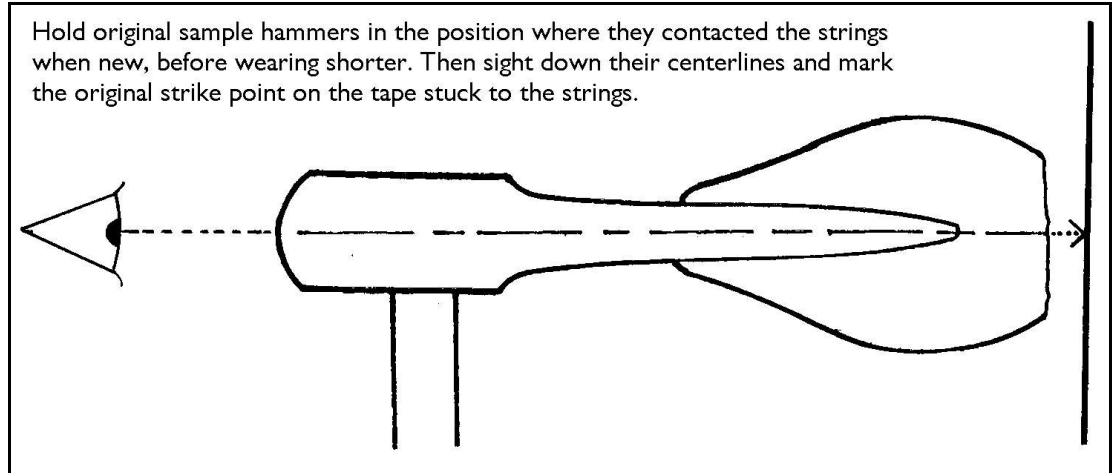

Figure 6: Marking the strike line on tape strip
3. Push hammer #1 toward the strings until it is in position where it would be touching the string if it had no wear (estimate original size). See figure 6 below.